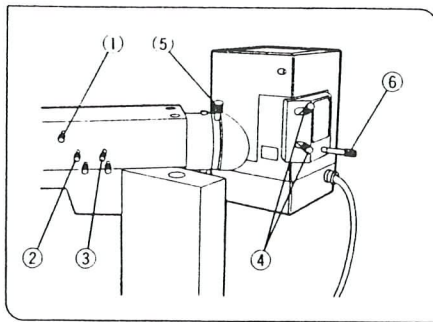

Fig. 17
## 6 Centering the Mercury Burner (Figs. 17, 18)
1. Pull out the light excluding shutter knob ① to block the light path.
4. Push in the field iris diaphragm knob ② and the aperture iris diaphragm knob ③ to fully open the iris diaphragms. (Fig. 17)
5. Push in the light excluding shutter knob ① to completely open the light path.
6. Screw in the burner focusing knob ⑥ fully.